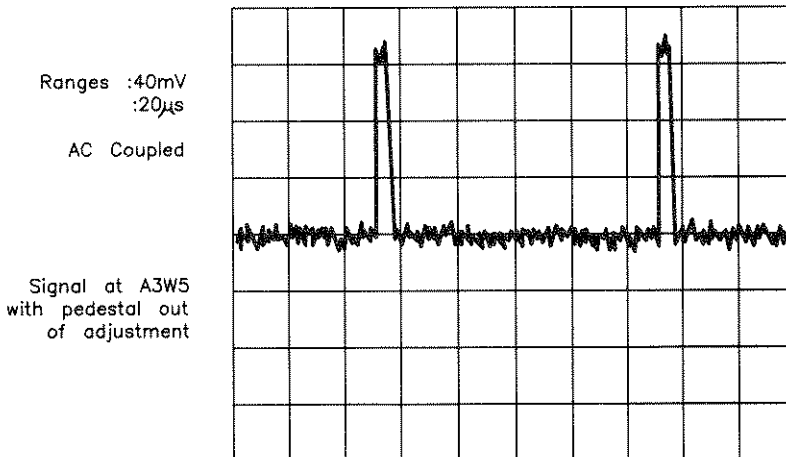

Figure 5-19. Oscilloscope Display with Pedestal Needing Adjustment
- 4. Refer to Figure 5-19 and adjust A3R562 (PED) for a minimum peak value.